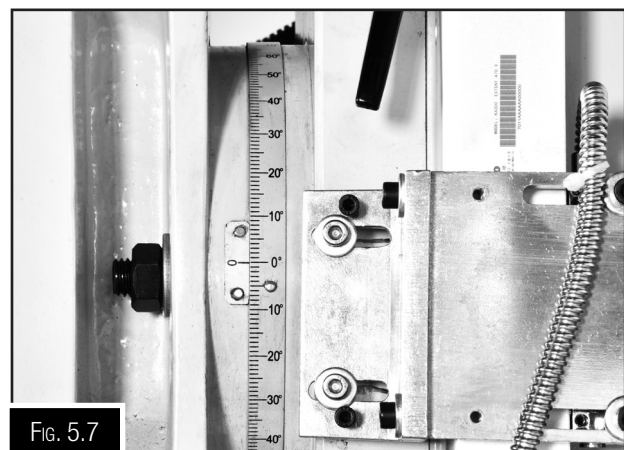

Fig. 5.7
3. Using the head angle scale shown (Fig.5.7) as a guide, or for a more accurate reading use the angle block digital gauge as shown (Fig.5. 8)